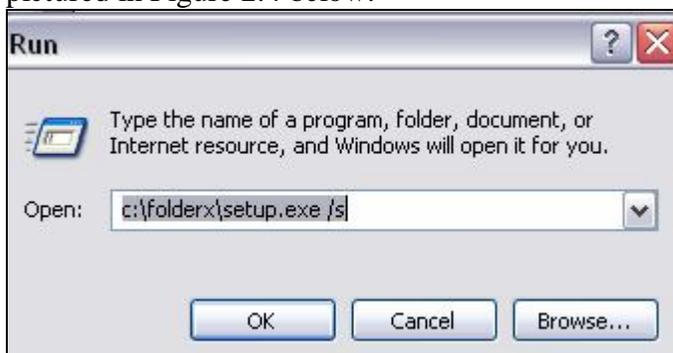

Figure 2.4
3. Click the setup.exe file then click **'Open'**. The **'Open'** field will display the command line C:\folderX\setup.exe. Click to place the cursor after the setup.exe and type a space /s as pictured in Figure 2.4 below: